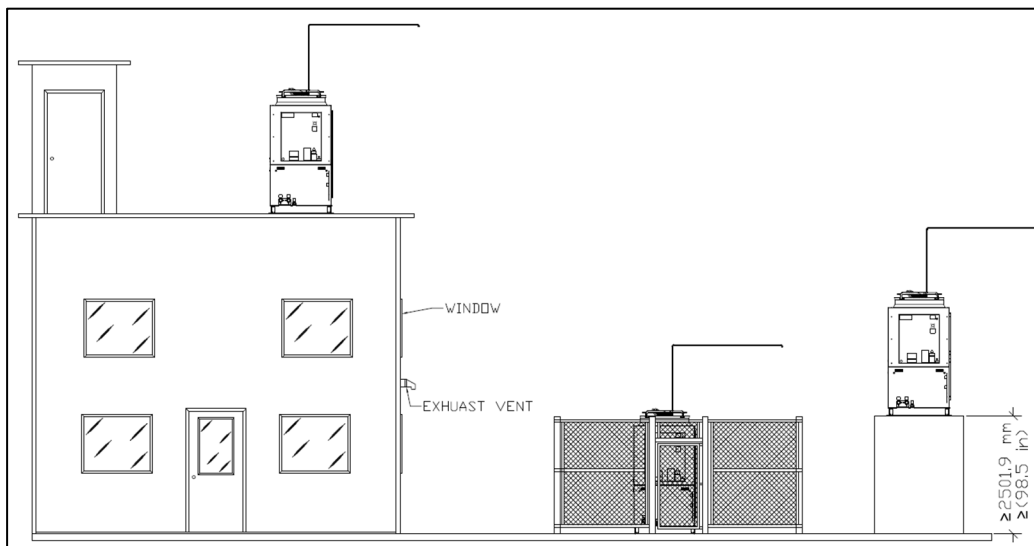
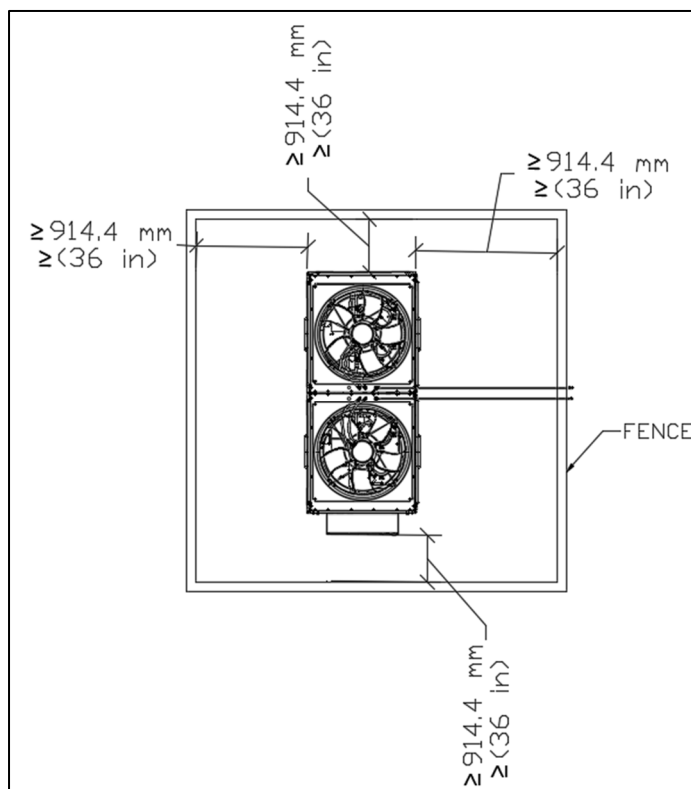

Figure 1 Examples of restricted access
Figure 2 Clearances required when installed in a fence
- A fence around chiller with a lock. (Figure 1 & Figure 2).
- In an area that requires a key or access card to gain access (e.g. a roof or raised platform) (Figure 1).